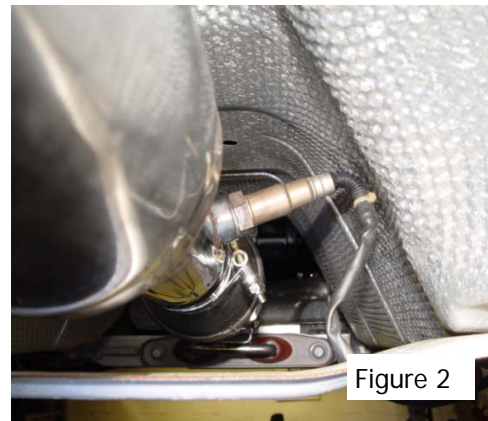

Figure 2
4. When installing the downpipe, first soak the downpipe to turbo nuts in a penetrating oil for several hours to ensure easy removal. Also be sure to rotate the resonator and cat sections during install so that the second and third (CBFA TSI cars only) oxygen sensors clear the tunnel heat shield. See Figure 2.